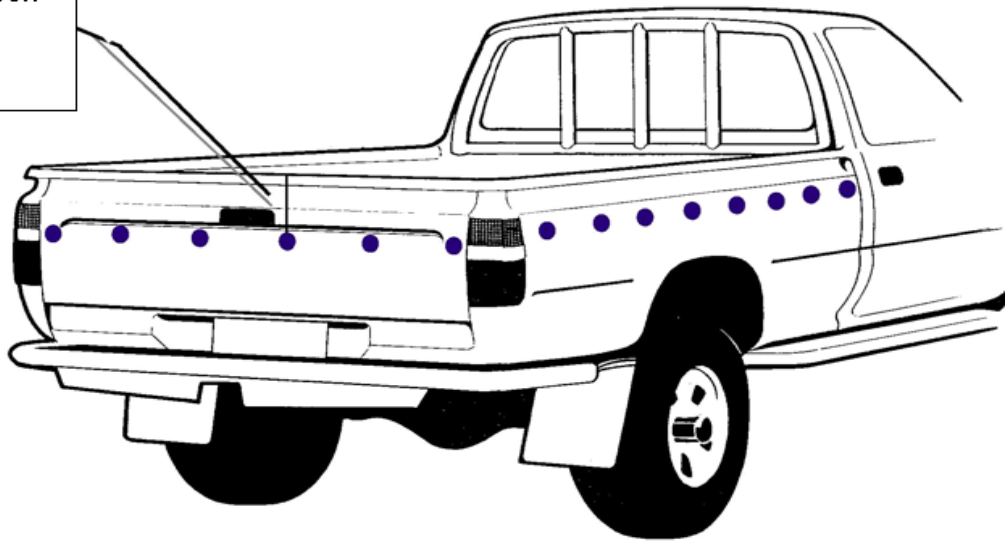

Fig 1
7. To fit the rope buttons. Start with the rear centre eyelet, ensure the Tonneau cover is **centred** and **taught (this is critical)**. Vertically line up each rope button individually to the centre between two eyelets (Fig 1). With a marking pencil make a mark at the height you would like the rope buttons (the continuous rope has a lot of stretch and can be adjusted to suit different rope button heights).